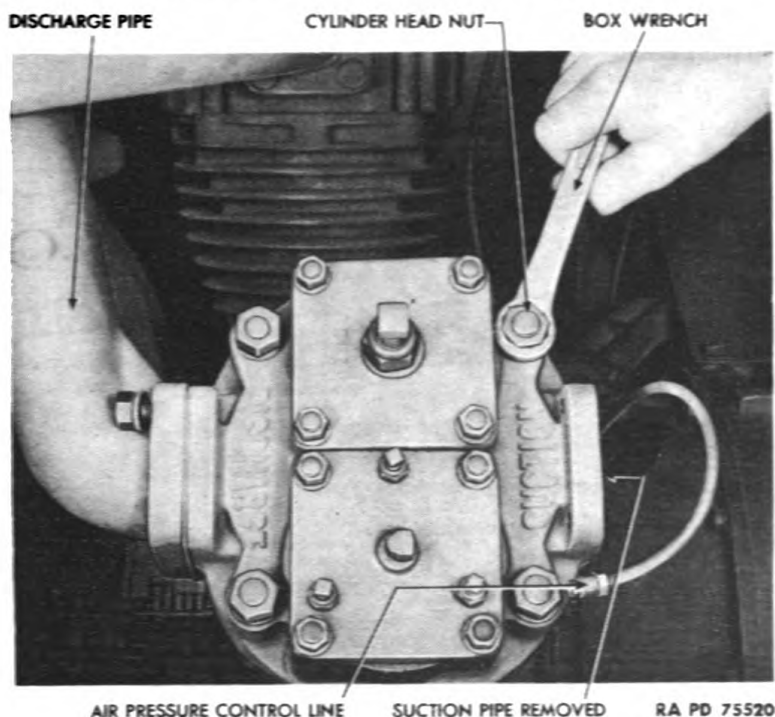

Figure 24 — Removing Compressor Cylinder Head
- (3) **REMOVAL OF COMPRESSOR CYLINDER HEAD (fig. 24).**
- (4) **INSTALLATION OF COMPRESSOR CYLINDER HEAD (fig. 24).**